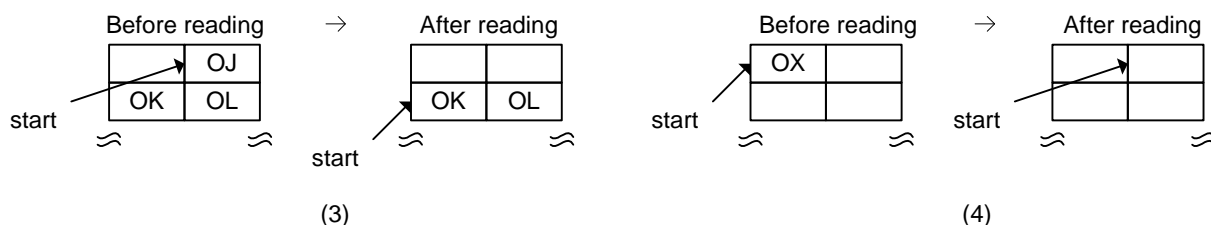

Fig. 1.80 FIFO reading processing (caution required)
Fig. 1.80 (3) shows the situation when word-reading using the FIFO_Rd_0,1 registers from a state having byte boundaries. Indeterminate data is output to High and data J is output to Low. The read pointer increments one byte at a time. Fig. 1.80 (4) shows the operation when word-reading using the FIFO_Rd_0,1 registers from a state in which byte boundaries do not exist but one byte of data remains. Data X is output to High and indeterminate data is output to Low. The read pointer increments one byte at a time.